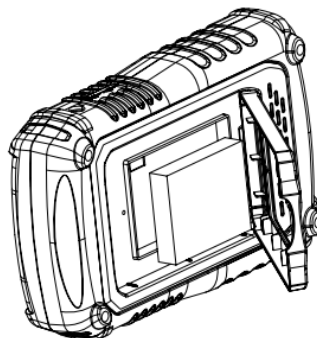

Figure 3
3. Put battery into the battery box and cover it tightly. As shown in figure3.